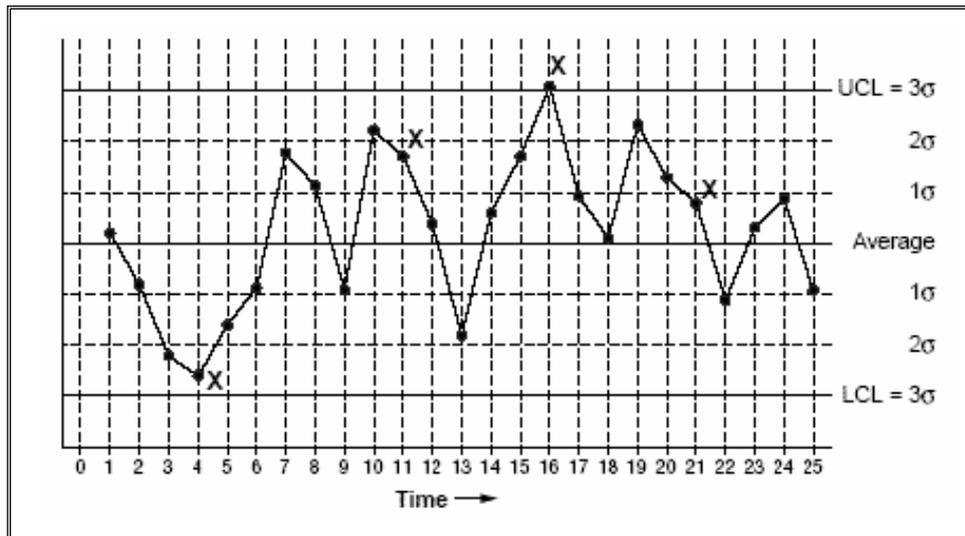

Figure 1: Sample Control Chart
- A single point outside the control limits. In Figure 1, point 16 is above the UCL (upper control limit).
- Two out of three successive points are on the same side of the centerline and farther than  $2\sigma$  from it. In Figure 1, point 4 sends that signal.
- Four out of five successive points are on the same side of the centerline and farther than  $1\sigma$  from it. In Figure 1, point 11 sends that signal.
- A run of eight in a row are on the same side of the centerline. Or 10 out of 11, 12 out of 14 or 16 out of 20. In Figure 1, point 21 is eighth in a row above the centerline.